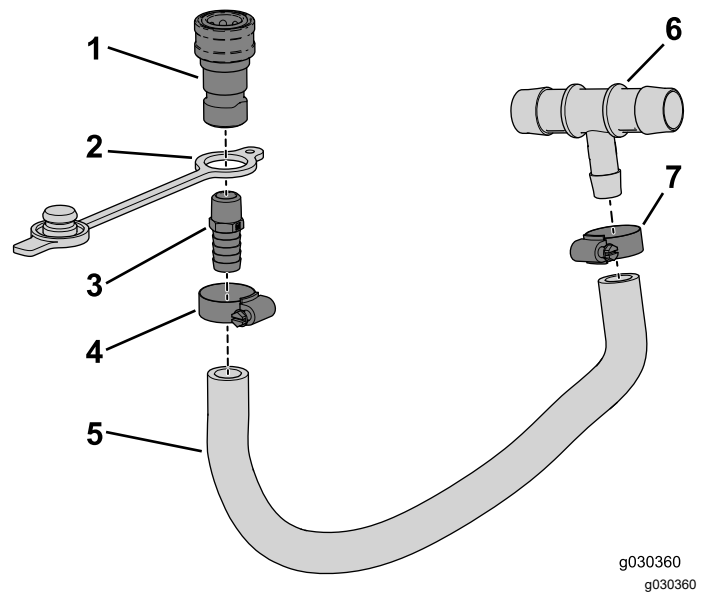

Figure 9
- Slide the dust plug over the threaded end of the straight fitting (Figure 9).
- Thread the straight fitting (3/8 NPT x 0.625 barb) to the female coupler (Figure 9).
- Insert the barbed end of the assembly into the hose and secure it with the hose clamp (1/2 to 1-1/4 inches) as shown in Figure 9.
- Insert the barbed end of the tee fitting into the hose and secure it with the hose clamp (1/2 to 1-1/4 inches) as shown in Figure 9.
1. Remove the caps covering the holes in the support tube (Figure 9).